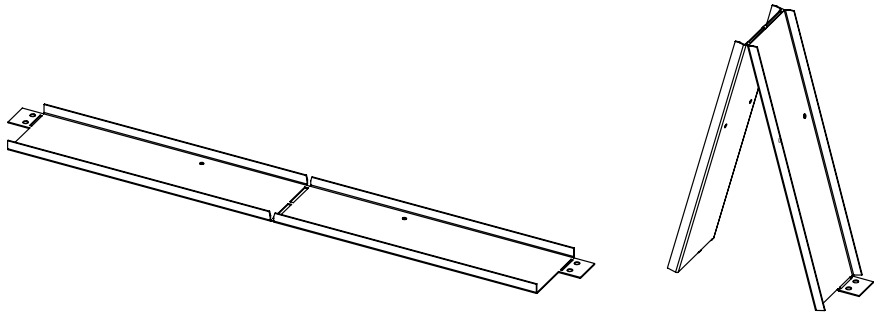

Figure 26: Top Standoff Shape
1. Bend top standoff by hand to form general shape (see Figure 26).